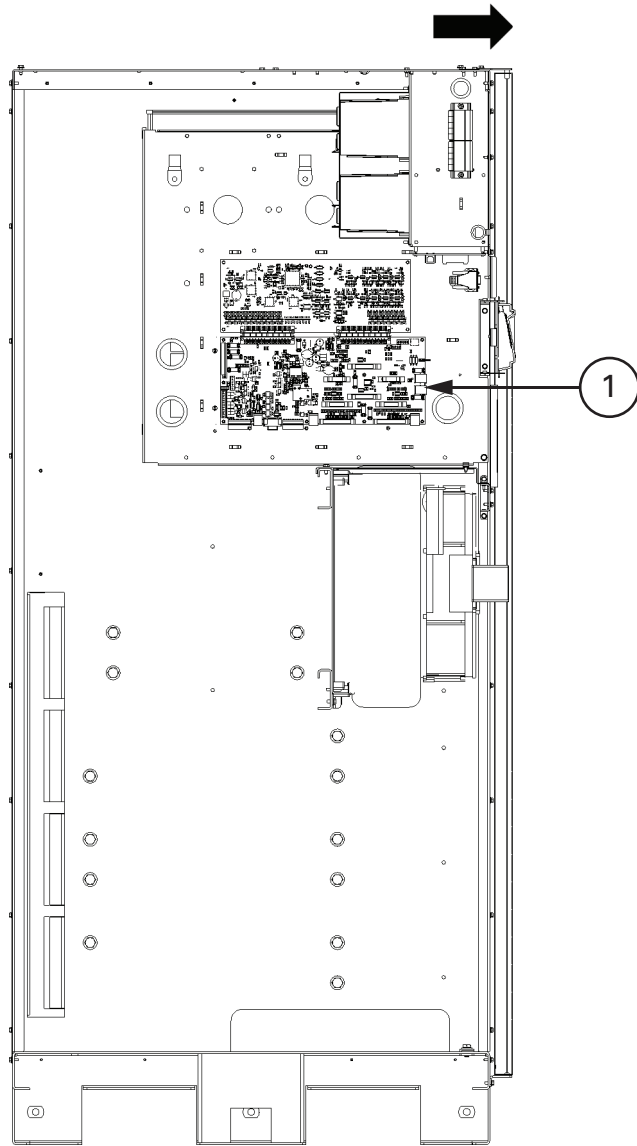
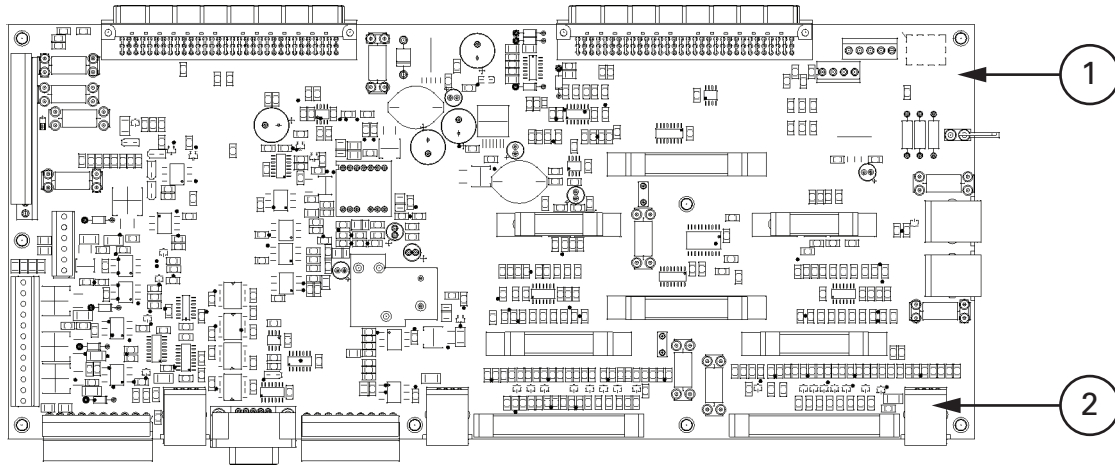

Figure 4-11. PI1 interface board location
Figure 4-12. J39 location on PI1 interface board
21. In the ISBM section, locate the J39 inverter CAN connector on the PI1 interface board and connect the RJ45 CAN cable connector to the J39 connector (see Figure 4-11 and Figure 4-12 on page 46).